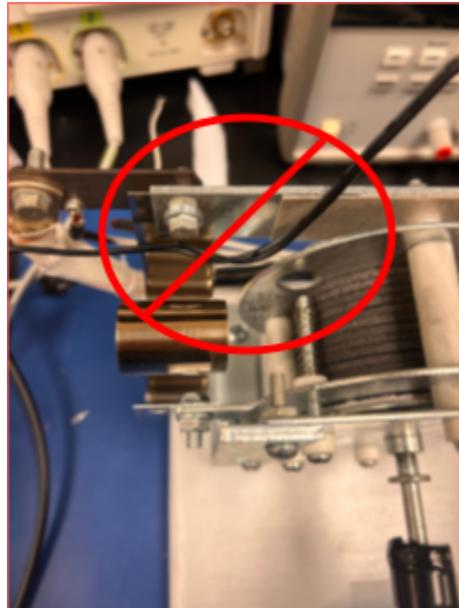

Figure 1.11: Power Adapter Wire Touching Carbon Pile Load (JL)
Use a 12V power adapter with a barrel-style connector. Plug the adapter into the barrel jack located on the left side of the device. Make sure the adapter wire does not come into contact with the carbon pile load (shown in figure 1.11), as this may cause the wire to melt and lead to damage (JL).